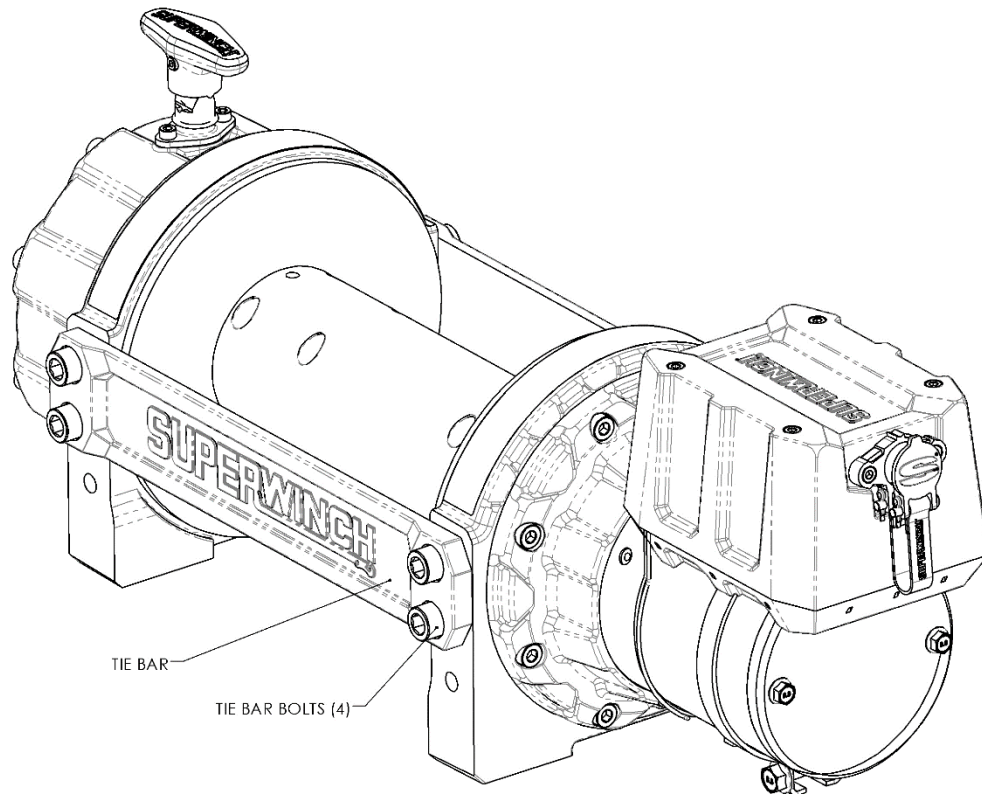

Figure 5 - Tie Bar Location
4. For purposes of this manual installation will be on rear mount with and under wound drum. For other installation adjust instructions for applicable install. Support winch on solid surface and remove appropriate tie bar. Set tie bar bolts aside for use with installing tensioner. (see figure 5)